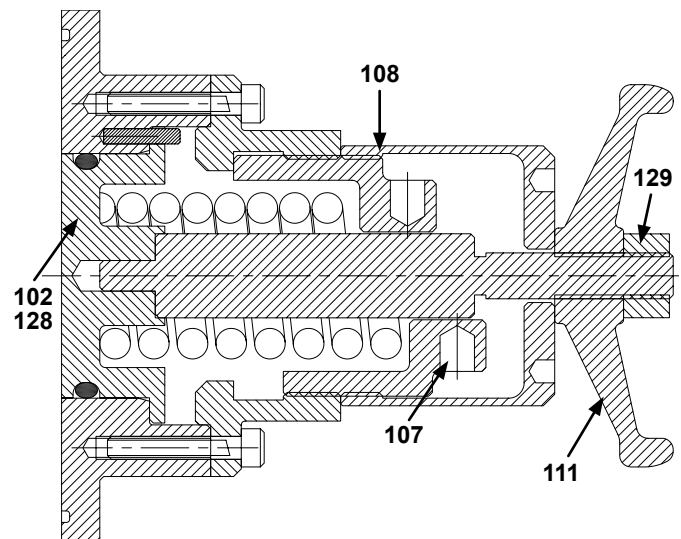

FIGURE 11
Spring Loaded with Manual Lift - see Figure 11.
- Remove cover (108). For integral relief valve with manual lift, see Figure 11; first remove nut (129) and hand wheel (111).
- Reinstall cover (108). For integral relief valve with manual lift, see Figure 11; reinstall hand wheel (111) and nut (129).
For Integral Relief Valve with Manual Lift - see Figure 11.